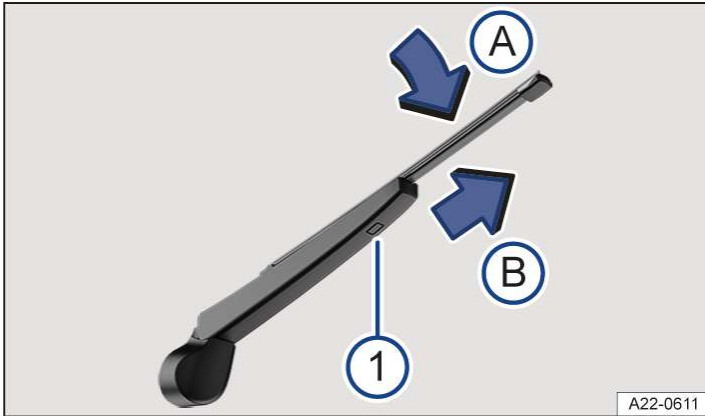

Fig. 2 Changing the wiper blade for the rear window.
3. Press and hold the release button → Fig. 2 1.
4. Tilt the wiper blade in the direction of the wiper arm → Fig. 2 A and pull it off in the direction of the arrow B at the same time. You may need to use some force to do this.
5. Insert a new wiper blade with the same length and design onto the wiper arm against the direction of the arrow. Push it on until it engages → Fig. 2 B. The wiper blade must be in folded-down position to do this → Fig. 2 A.